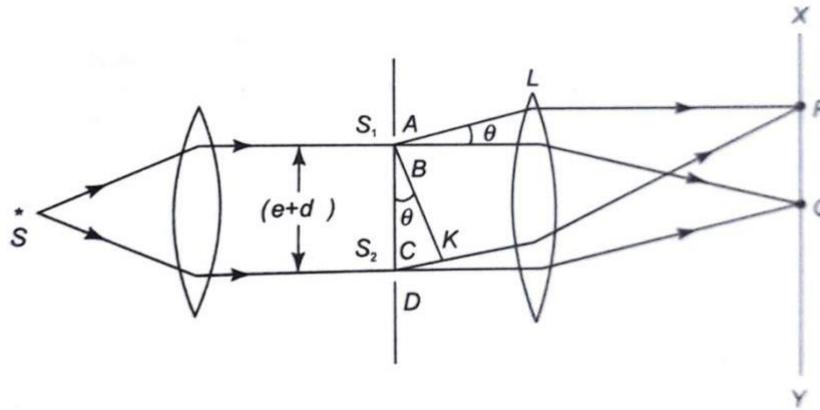

Fig1.16 Fraunhofer diffraction due to double slit
The arrangement of Fraunhofer diffraction due to double slit is shown in Fig 1.16.
- In Figure 1.16, S is a point source of monochromatic light with wavelength λ and S_1 and S_2 are the two slits of same width e and separated by a distance d .